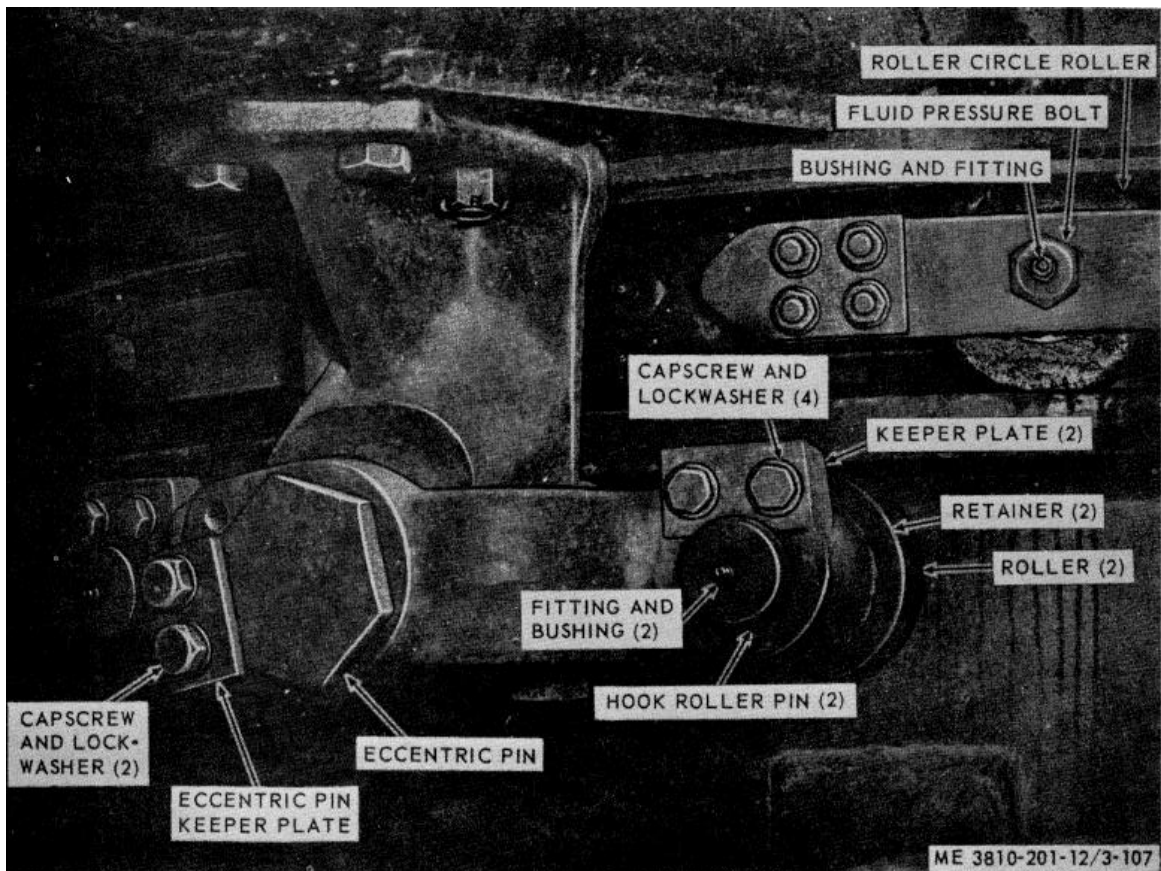

Figure 3-107. Rear hook rollers, removal and installation.
- (2) Support the swivel arm (fig. 3-107) with cribbing or a jack, remove two capscrews, lockwashers, and keeper plate, use wedges on cribbing, or the jack to take arm weight off eccentric pin, then remove eccentric pin.
- (3) Remove four capscrews, lockwashers, and two keeper plates, push roller pins inward slightly to make retainer accessible, remove retainer, then pull roller pins outward and remove rollers and pins. Remove lubrication fittings and bushings from the two roller pins.
- (4) Remove remaining rear hook roller in a similar manner.
- (5) Install in reverse order.
(1) Remove nut and lockwasher from fluid pressure bolt (fig. 3-107), then withdraw bolt from segment roller shaft, and remove roller from roller circle frame.
(2) Remove lubrication fitting and bushing from fluid pressure bolt.
(3) Remove shaft from segment roller.
(4) Install in reverse order.
(5) Remove or install remaining rollers in a similar manner.